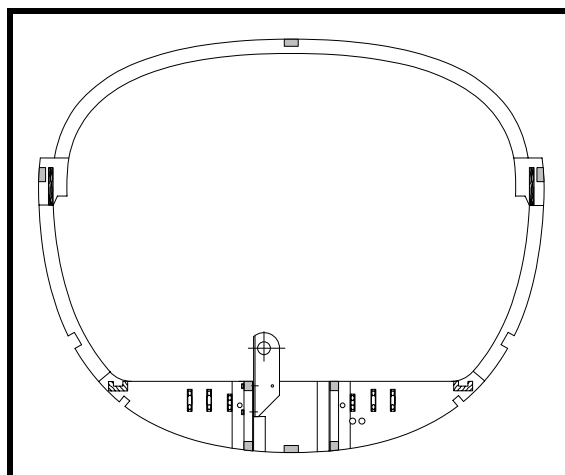

Figure 8
- ❑ Install 25x25 spruce corner blocking at the aft end of the nose gear bay. See Figure 8. The corner blocking below P/N 717-2 must be shorter, obviously. On the outside of the nose gear bay walls, the corner blocking must be notched to fit around the channel-nuts for P/N 717-2 and drilled for the rudder cables.